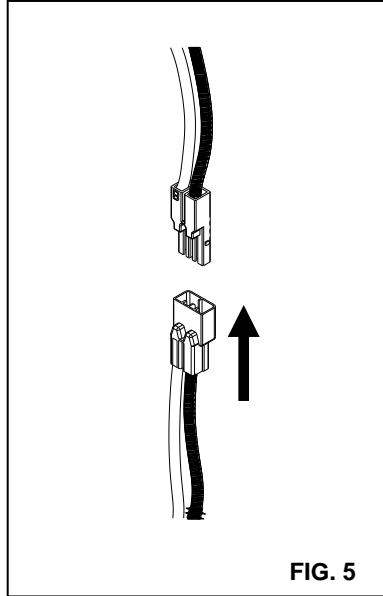

FIG. 5
3. Plug the FEMALE CONNECTOR of the RETROFIT TRIM onto the MALE CONNECTOR of the SOCKET ADAPTER ASSEMBLY. **(FIG. 5)**
1. Plug the FEMALE CONNECTOR of the RETROFIT TRIM onto the MALE CONNECTOR of the HALO HOUSING. **(FIG. 5)**